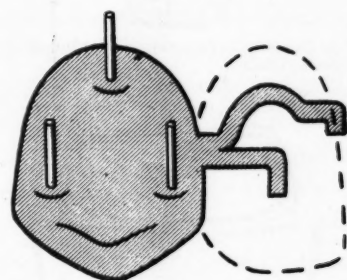

Fig. 9—Longitudinal post directly in center of pontic. Post must not take up more vertical space than would preparation for jacket crown.
7. When cleaned and placed back on the mold, a single saddle is had for the gingival in addition to a longitudinal post which juts up from the separated end (Fig. 8). This post must be ground so as not to take up more vertical space than would the preparation of a jacket crown and should be directly in the center of the pontic (Fig. 9).